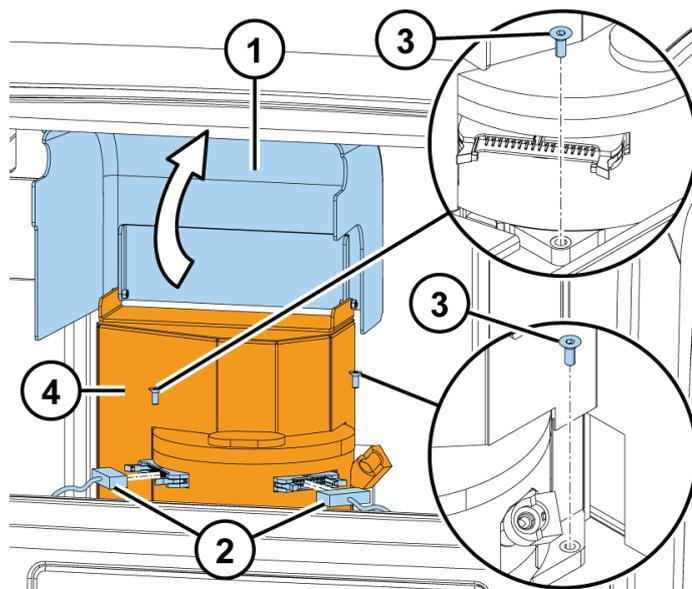

Figure 5–47 Removing the LAT module
3. Remove the LAT module according to Figure 5–47.